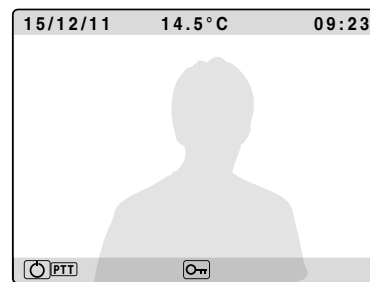

Fig. 2A
- To switch from hands free to push to talk mode, keep pressed the  until the related LED starts to flash slowly **Fig.2A**. Keep pressed the  button to talk to the visitor (the LED flashes quickly) and release the button (the LED flashes slowly) to listen the visitor;